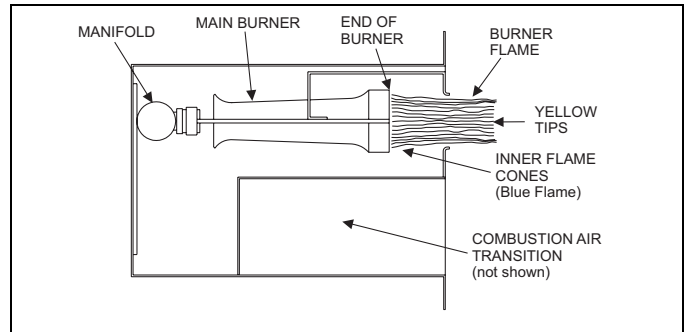

FIGURE 2: Burner Flame Drawing
6. Examine the burner flames to make sure the burners look like they are operating properly. The burner flames for natural gas should appear blue with a few yellow tips. The burner flames for propane gas should appear blue with moderate yellow tips. The flame should appear cylindrical in shape and should extend from the end of the burner into the heat exchanger. Refer to the pictorial sketch shown in Figure 2 as a comparison to the actual flame.